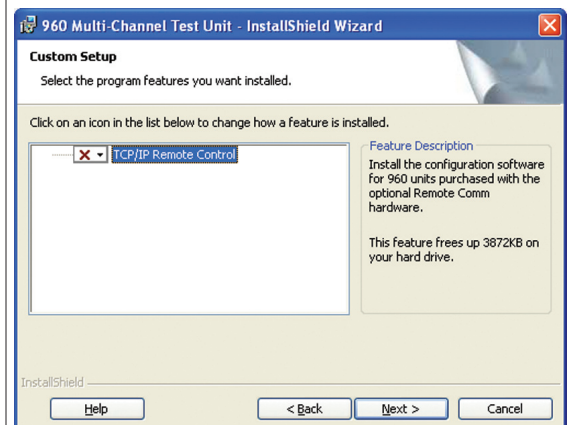

Figure 4.2.2 Custom Setup Dialog Box
- h. The installer will now present the Custom Setup screen shown in Figure 4.2.2.